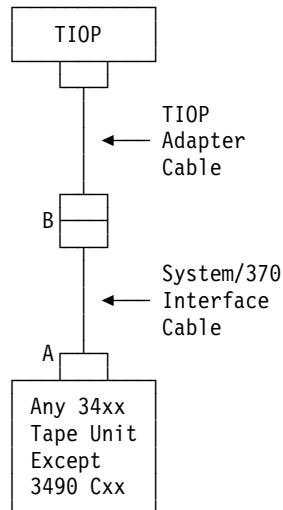

Figure 17. Tape Subsystem Cable Connections
- The tape subsystem cables are connected as shown in Figure 17.
- Disconnect the System/370 interface cable from the I/O device control unit (at **A** in Figure 17).
- b. Disconnect the TIOP adapter cable from the System/370 interface cable (at **B** in Figure 17 on page 642).